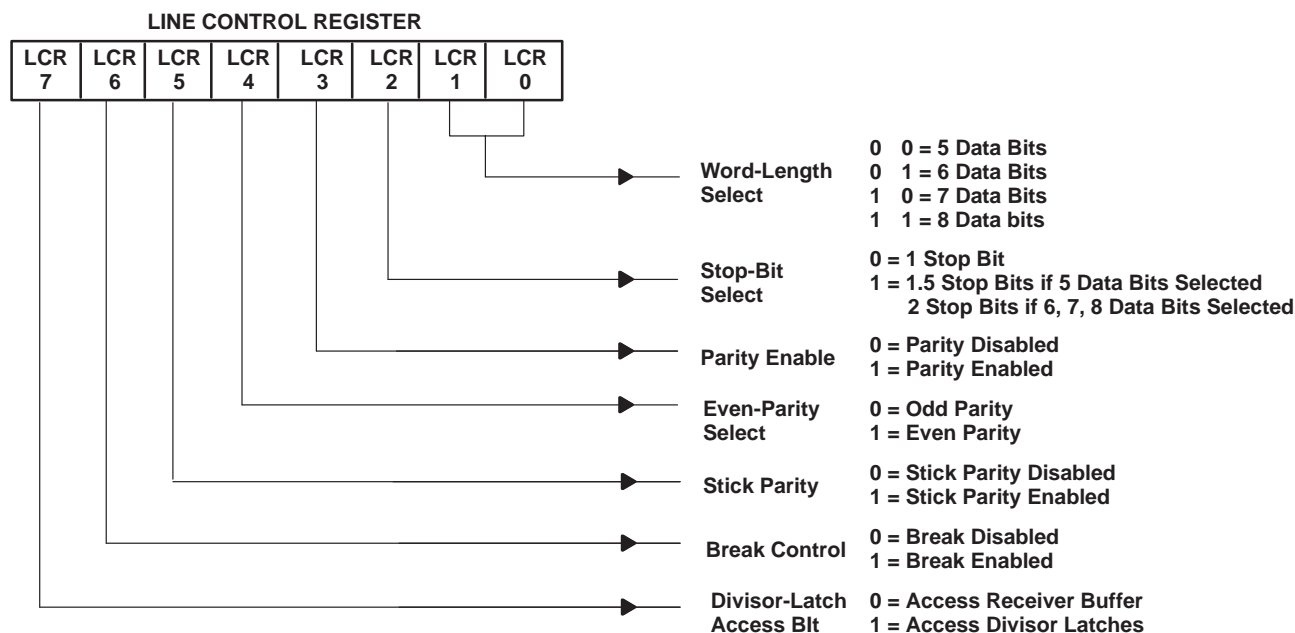

Figure 18. Line-Control Register Contents
The format of the data character is controlled by LCR. LCR may be read. Its contents are described in the following bulleted list and shown in Figure 18.
- Bits 0 and 1: LCR0 and LCR1 are word-length select bits. These bits program the number of bits in each serial character and are shown in Figure 18.